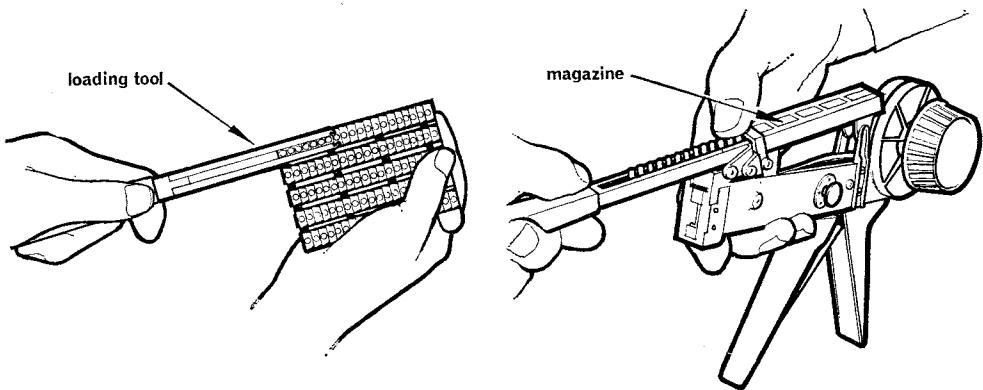

Fig 35 Loading the magazine
b. Closures. Release a row of 20 closures from the frame supplied, using the magazine loading tool (Fig 35). Slightly raise the rear end of the magazine, and hold back the small lever on the front of the magazine with the thumb. Slide the loading tool with closures into the magazine and release the small lever. Withdraw the loading tool, leaving the closures held in the magazine.